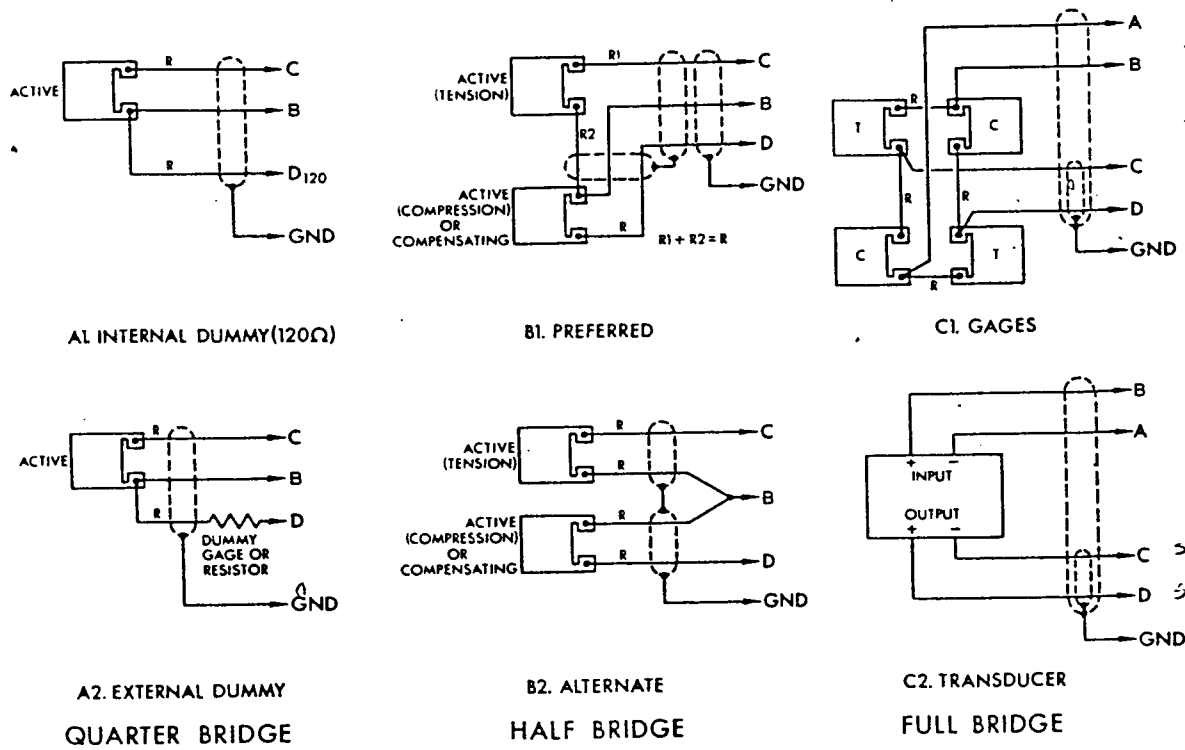

Fig. 1: Input Circuits
Binding Posts These are the input connections for the instrument. A and B are bridge power, C and D are for bridge output (or amplifier input). A half-bridge would be connected between C, B, and D (with the common lead to B). D₁₂₀ is used for quarter-bridges, in conjunction with C and B. GND is case ground (not connected to circuits). For details see Figure 1.
- 2.3 Connect the input to the instrument in accordance with Fig. 1. Note that the "tension" or "compression" designation simply indicates the direction of strain at that gage position which will yield a "+" (right) deflection on the Meter or positive voltage output at the output jacks.
a) In the quarter-bridge circuit, *always* use the 3-leadwire circuit shown in Fig. 1, rather than the more obvious 2-wire circuit.